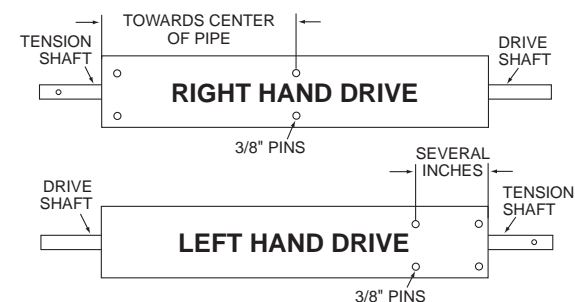

Fig 12
SPRING CONFIGURATION—See Figure 12.
- At tension end of barrel the bearing assembly may be pinned to the barrel as shown in Figure 12, or the bearing assembly may be welded into end of barrel.